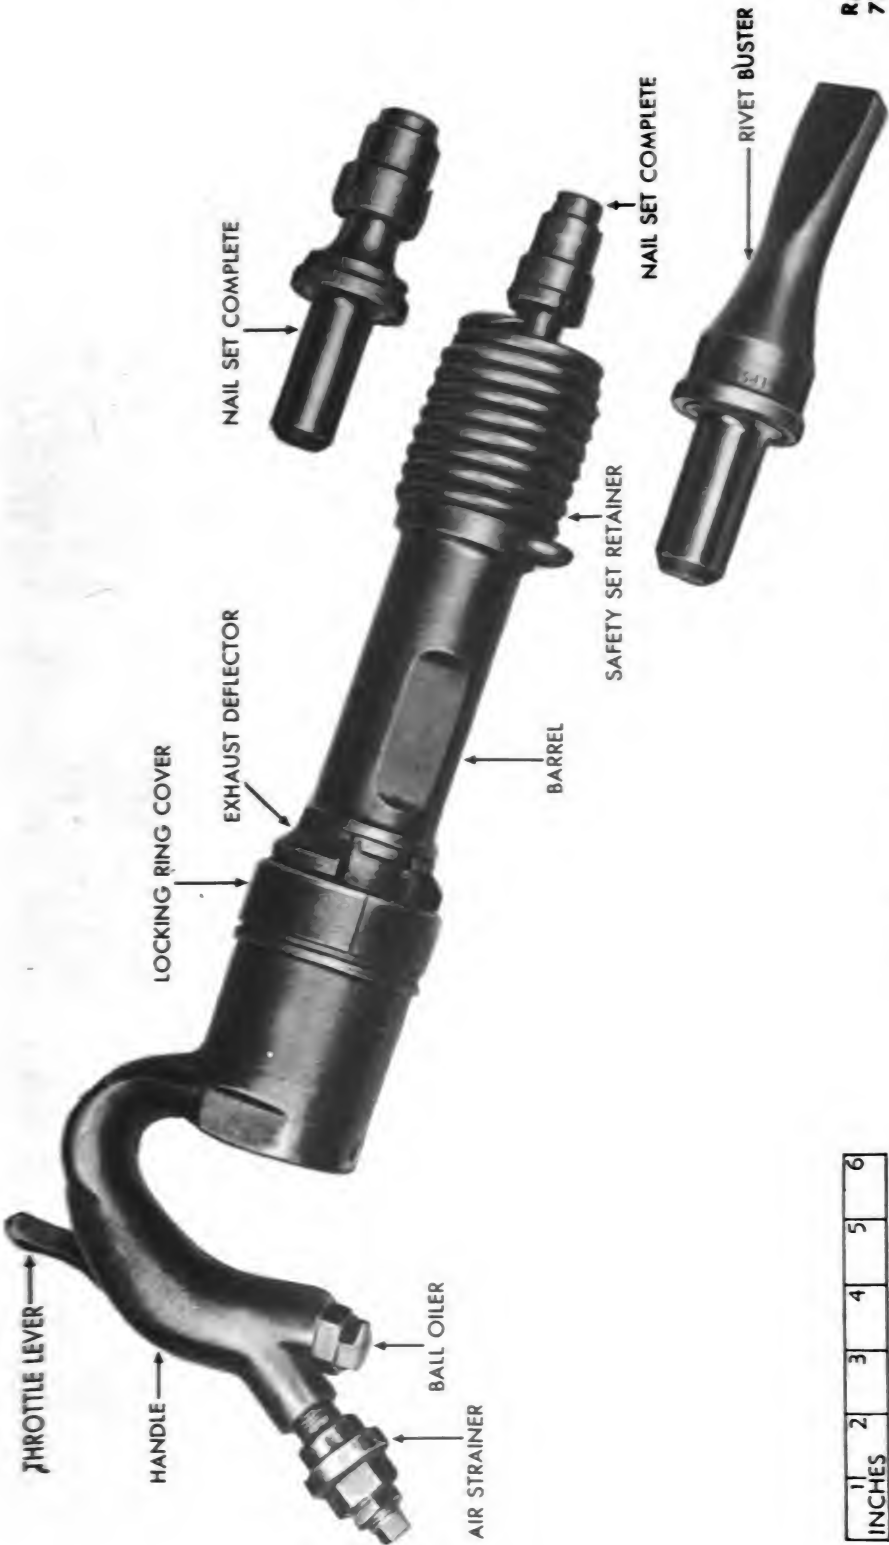
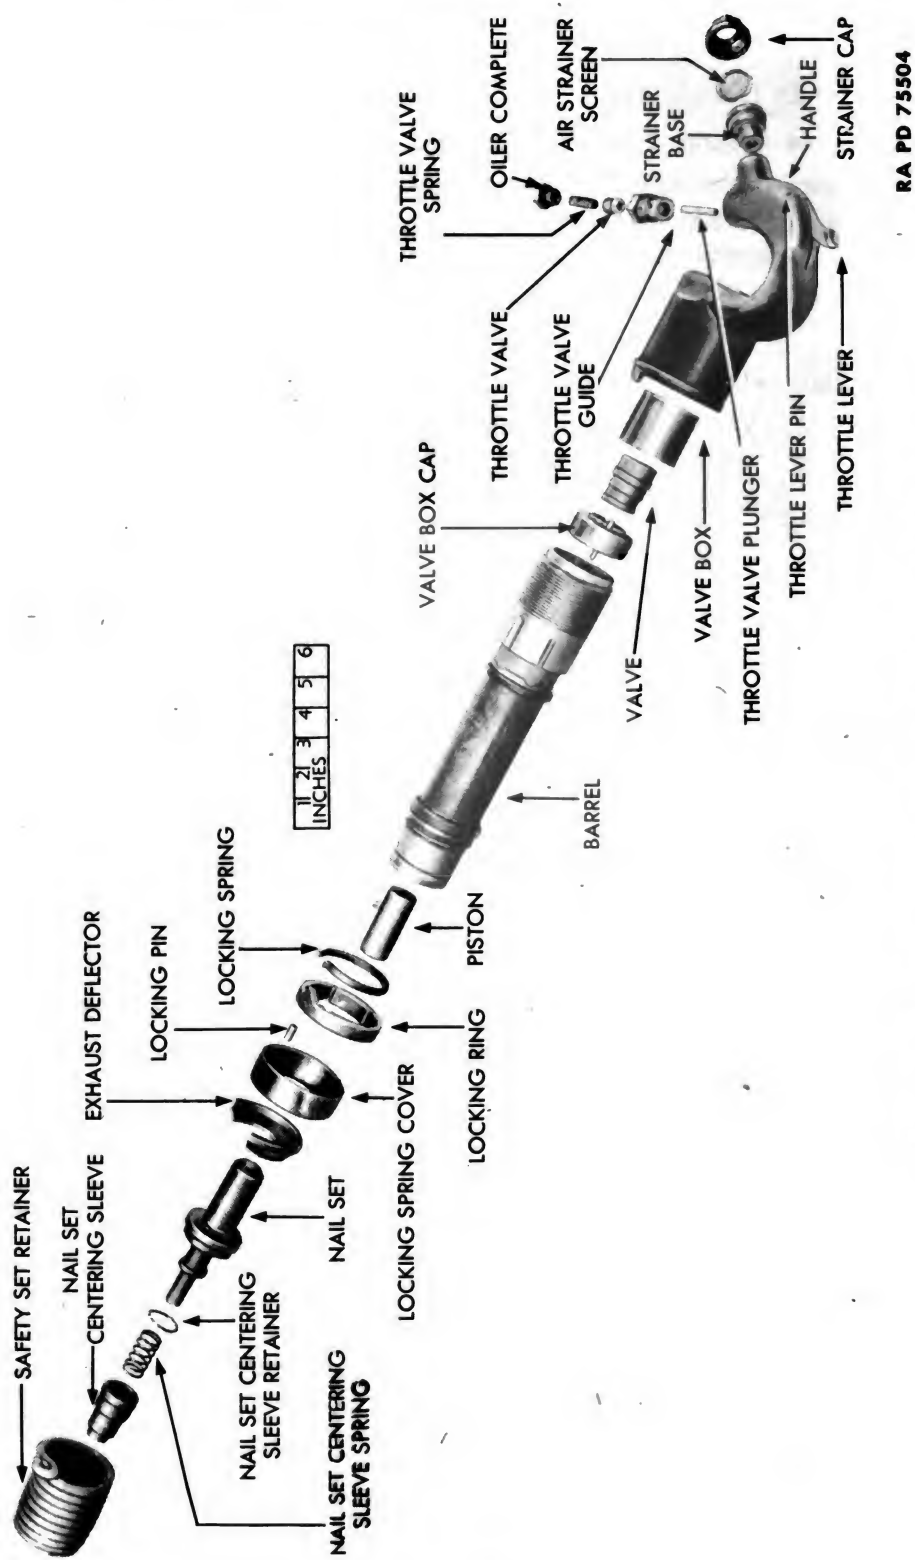

Figure 44 — Pneumatic Nail Driver
Figure 46 — Pneumatic Nail Driver — Exploded View
Section I**NAIL DRIVER****9. DESCRIPTION AND FUNCTIONING (fig. 44).**
b. Setting Up for Operation (figs. 44 and 46).
- (1) Slip piston into barrel from front end.
- (2) Place set in nozzle hole of barrel.
- (3) Screw safety set retainer on barrel to hold set in place. Drive curled up end of retainer into locking notch with a soft hammer.
(4) Lubricate tool (par. 14 b).
(5) Connect air hose from compressor to air inlet on handle.
b. Reseating Throttle Valve (fig. 46). Remove ball oiler, spring, valve, and plunger (par. 12 a). Screw a $\frac{7}{16}$ -inch, 14-thread bolt into throttle valve. Apply valve lapping compound to tapered seat only and lap in. Wash parts in SOLVENT, dry-cleaning, and reassemble (par. 12 b). Be sure there is a little play between plunger and valve.
c. Replacement of Throttle Valve Guide (fig. 46). Remove old throttle valve guide (par. 12 a). Coat new guide front end with LEAD, white, basic-carbonate, type C, to give good seal. Lap valve into seat (subpar. 4 b, above). If a new throttle valve complete is used, it will not be necessary to lap in old throttle valve.
a. Disassembly (fig. 46).
(1) Drive curled up end of safety set retainer from locking notch with a soft hammer and unscrew retainer from barrel.
(2) Remove set and piston from barrel.
b. Assembly (fig. 46).
(2) Inspect safety set retainer to be certain it is screwed on tightly and curled up end is in notch. If retainer comes loose, set and piston can be "shot" from barrel and may cause injury.
(3) Inspect all fittings to see that none are loose.
a. **Care and Cleaning.** After each day's use clean tool in SOLVENT, dry-cleaning. Put a small amount of SOLVENT, dry-cleaning, in ball oiler (fig. 46) or in air intake (fig. 44) and run tool a few moments. Swab out barrel with clean cloth dampened with SOLVENT, dry-cleaning. Immediately lubricate hammer after cleaning with SOLVENT, dry-cleaning.
(2) **PROCEDURE.** Before starting tool, apply a small quantity of oil through ball oiler in handle (fig. 46). When in continuous operation, add oil every hour. After using apply a few drops of OIL, engine, SAE 10, and run for about 10 seconds. Since the tool may be thoroughly lubricated by the use of Ingersoll-Rand, type F "Oil-1R" air line lubricator, it is suggested that this lubricator be used when available as it dispenses with the procedure just mentioned. Fill the lubricator (1-pt capacity) with OIL, engine, SAE 10. Connect the air line lubricator with its 12-foot leader hose to the pneumatic tool and the air supply. Thus, when the air supply reaches the tool it is saturated with oil which lubricates the parts. Always oil immediately after cleaning with SOLVENT, dry-cleaning. *NOTE: Turn off air supply and bleed hose, or disconnect hammer from hose, before attempting to put oil in ball oiler. If an attempt is made to oil tool with air turned on, oil will be blown out of oiler.*